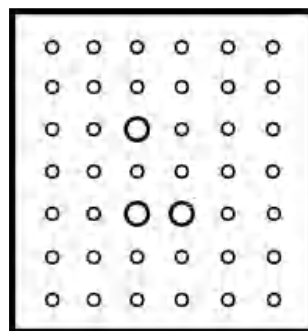

Figure 6-3 Master Plate of 3DeVOK MQ
1. Take out the master plate from the bag, place it on a flat and light-color table, as shown in Figure 6-3.